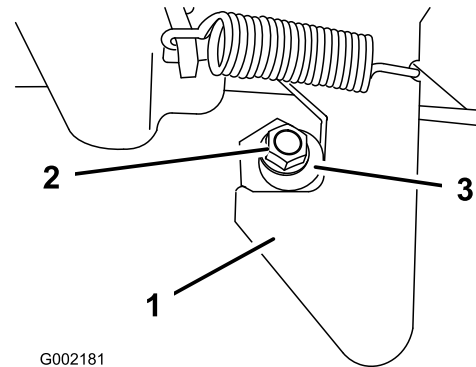

Figure 28
1. Loosen the nut on the end of the latch post (Figure 28).
2. Turn the latch post clockwise until it is snug against the latch and then tighten the nut (Figure 28).